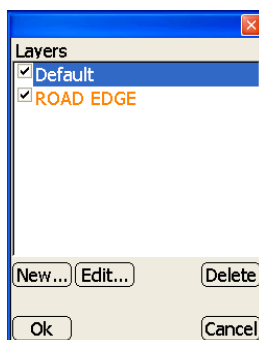

Figure 3-77. Layers
The **Layers** dialog box displays all layers within the selected file (Figure 3-77 on page 3-51).
- **Edit** – on the *Layers* dialog box, press **Edit** to edit the selected layer. See the “New” bullet and Figure 3-77 for details on editing the layer.